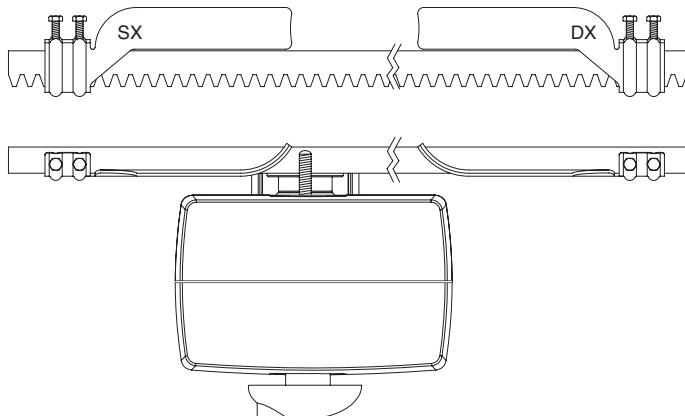

Fig. 12
- The installation of the two supplied placards is required in the area of the gate and in a location where they are clearly visible. (Fig.12).